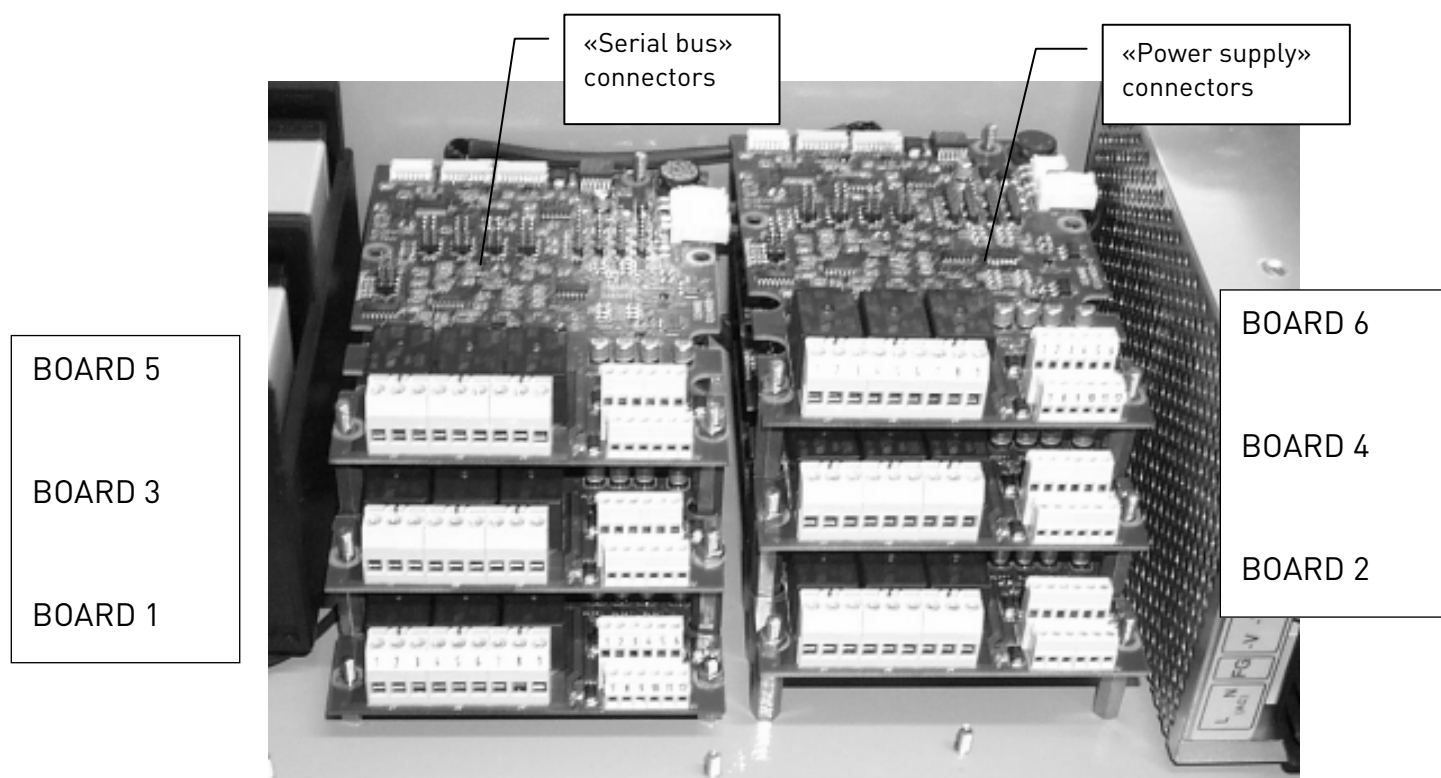

Figure 20: Placing the 4 channel boards in staggered rows
2. See the place that corresponds to the 4 channel group added, Boards will be placed in staggered rows, as in picture Figure 20.